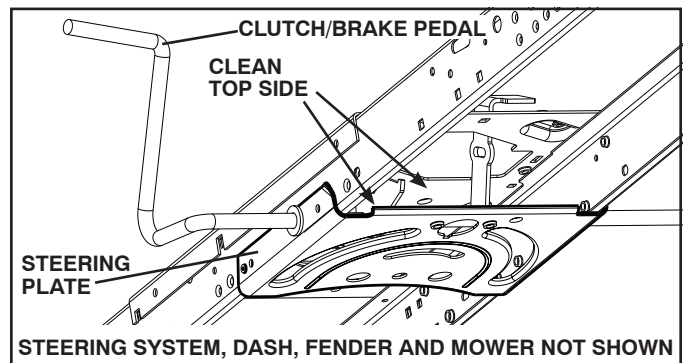

Fig. 38
- Clean debris from steering plate. Debris can restrict clutch/brake pedal shaft movement, causing belt slip and loss of drive. See Fig. 38.